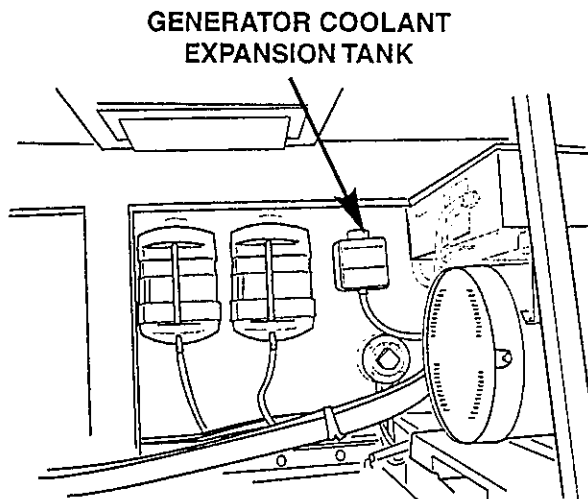

Figure 3-8 Checking Generator Coolant Level
9. See Figure 3-8. Check that the generator coolant level in the expansion tank is between the upper and lower marks.